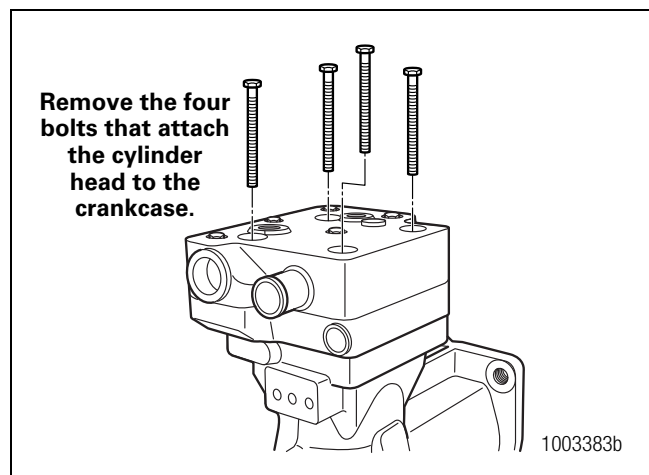

Figure 3.4
3. Remove the four bolts that attach the cylinder head to the crankcase and remove the cylinder head. Figure 3.4.